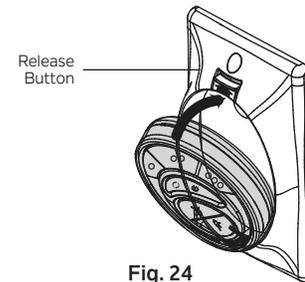

Fig. 24
Step 1. Insert the transmitter into the wall plate by inserting the bottom of the transmitter first and then pressing the top of the transmitter into the pocket. The transmitter will fully function from this location or you can remove the transmitter and use it as a hand held device. (Fig. 24)